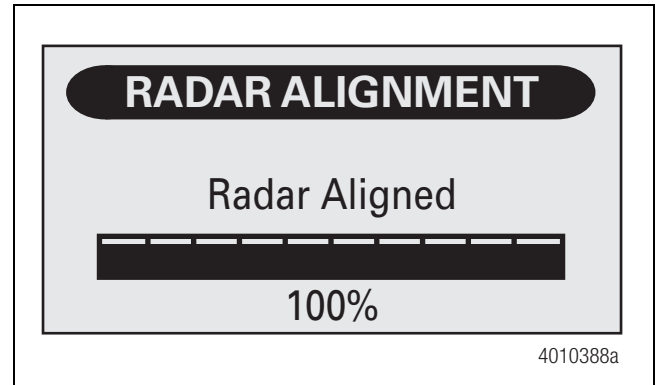

Figure 2.17
4. Drive until the Radar Aligned screen in Figure 2.17 appears in the display. This typically takes less than 10 miles to complete.